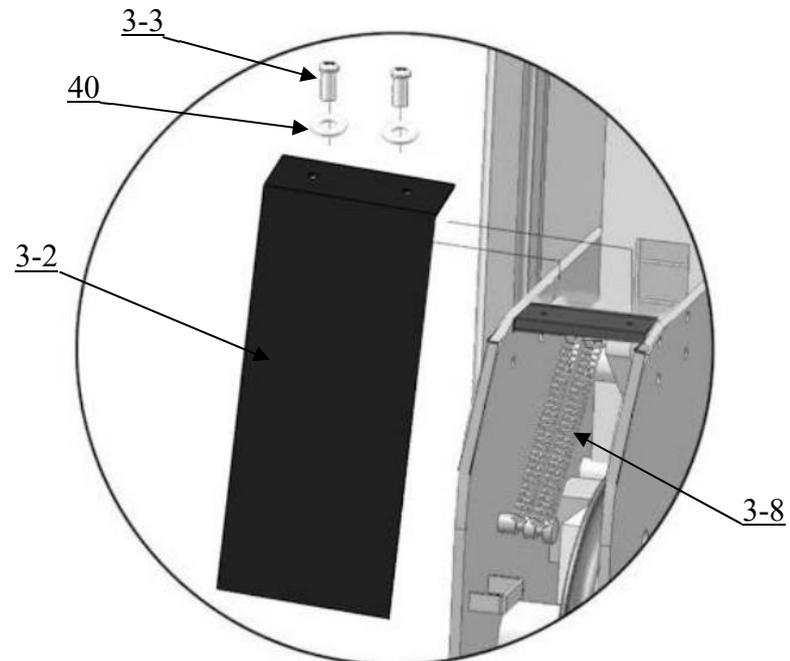

Fig. 41
O. Install spring and safety cover of cross beam (See Fig. 41)